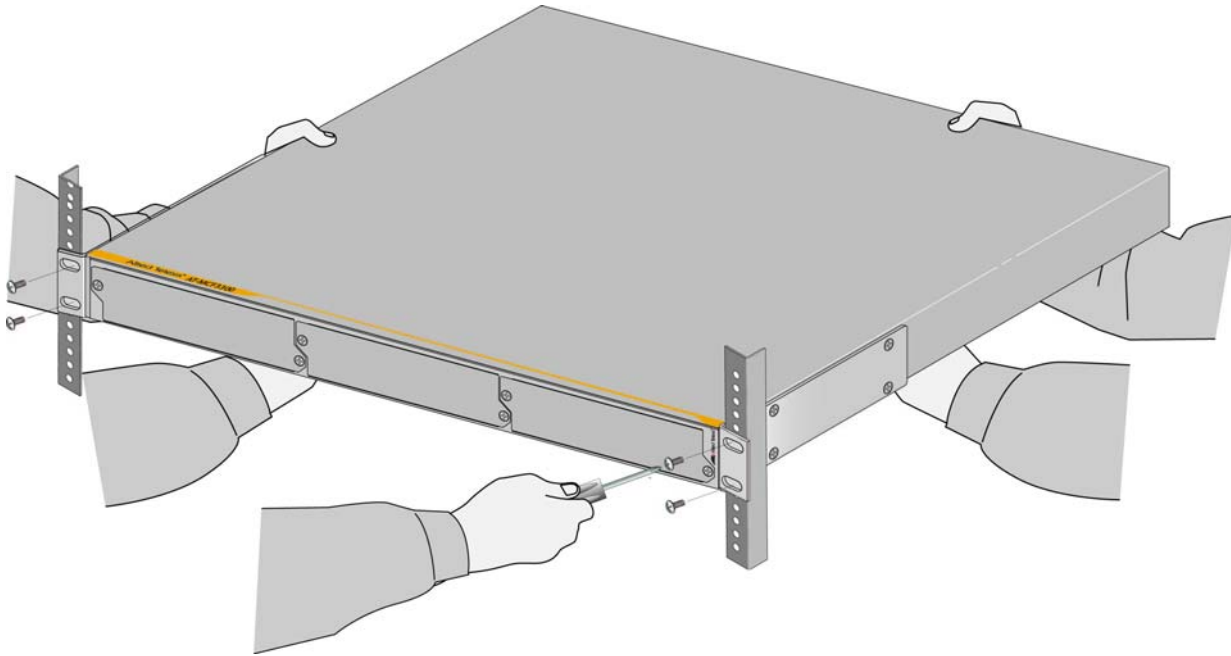

Figure 45. Installing the MCF3300 Chassis in an Equipment Rack
3. Mount the chassis in a 19-inch rack using standard screws (not provided). Refer to Figure 45.